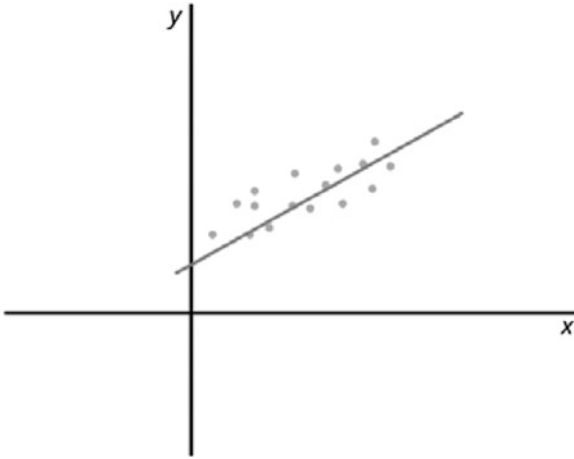

Figure 2-2. A graph showing an example of linear regression
- **Regression analysis** The analysis of a dependent variable against one or more independent variables to determine the nature of the relationship, if any, between the variables and to extrapolate from this a likely future scenario. In this process, it is used to forecast a likely future state of perhaps time or costs based on past performance and the mathematical trend observed. It is often displayed in graph format, as shown in Figure 2-2.